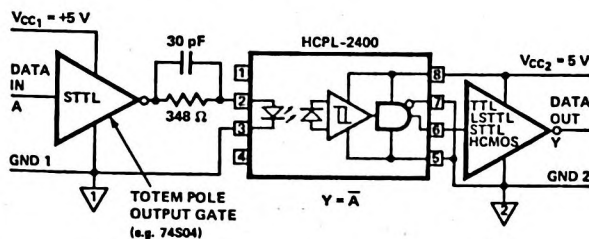

Figure 13. Recommended 20 MBd HCPL-2400 Interface Circuit
4. This specification simulates the worst case operating conditions of the HCPL-2400 over the recommended operating temperature and V_{CC} range with the suggested applications circuit of Figure 13.
A recommended application circuit for high speed operation is shown in Figure 13. Due to the fast current switching capabilities of Schottky family TTL logic (74STTL), data rates of 20 MBd are achievable from 0 to 70°C. The 74S04 totem-pole driver sources current to series-drive the input of the HCPL-2400 optocoupler. The 348 Ω resistor limits the LED forward current. The 30 pF speed-up capacitor assists in the turn-on and turn-off of the LED, increasing the data rate capability of the circuit. On the output side, the following logic can be directly driven by the output of the HCPL-2400, since a pull-up resistor is not required. If desired, a non-inverting buffer may be substituted on either the input or the output side to change the circuit function from $Y = \bar{A}$ to $Y = A$. This circuit satisfies all recommended operating conditions.